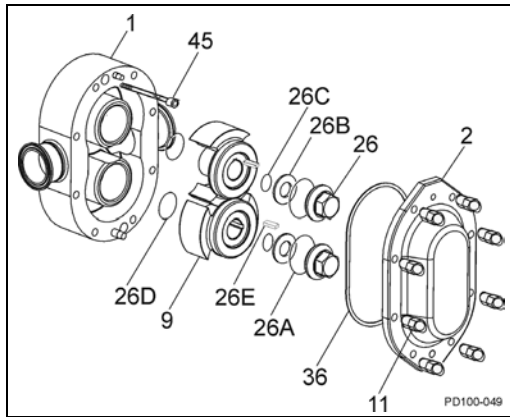

Figure 68 - Exploded View of Fluid Head
2. Install body (Figure 68, item 1) to gear case assembly aligning body with body studs. Avoid damaging seals as body is drawn over shafts.
3. Secure body to gear case using two cap screws (Figure 68, item 45).
1. Lubricate o-rings (Figure 68, item 26A and 26D) with lubrication compound compatible with o-ring material and process fluid(s).
2. Install new rotor hub o-rings (item 26D) into groove on rotors hubs.
3. Install rotors (item 9) onto shafts.
4. Align keyways in rotors with keyways on shafts and install keys (item 26E).
1. Install belleville washer (Figure 68, item 26B) into rotor nut with outer raised side of washer toward rotor nut.
2. Place retainer o-ring (item 26C) into rotor nut to retain belleville washer. Washer should not be tight against o-ring.
3. Lubricate new rotor nut o-ring (item 26A) with lubrication compound compatible with o-ring material and process fluid(s). If o-ring is not lubricated it will pucker when tightening rotor nut.
7. Screw rotor nuts (Figure 68, item 26) onto shafts (clockwise) and tighten to required torque.
1. Clean cover o-ring (Figure 68, item 36) and install in groove in cover.
3. Install cover (Figure 68, item 2) on pump body.
5. Tighten cover securely using cover nuts (Figure 68, item 11).